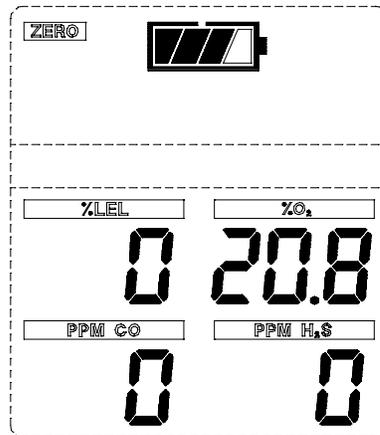

Figure 5-2. Zero Flag
2. Push and hold the CHANGE/RESET button until the ZERO flag flashes in the upper portion of the display (FIGURE 5-2).